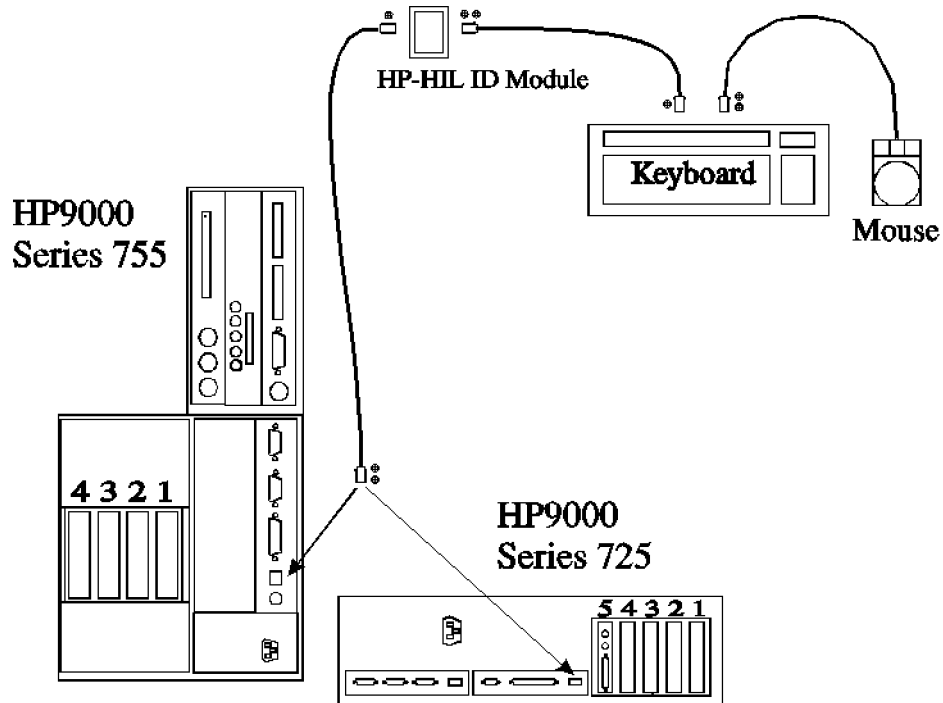

Figure 3-4. Installing HP-HIL Modules
- You must install ID Modules between the workstation and the keyboard, as shown in Figure 3-4. Do not attempt to install them between the keyboard and mouse, as this will cause problems while you are booting the software.